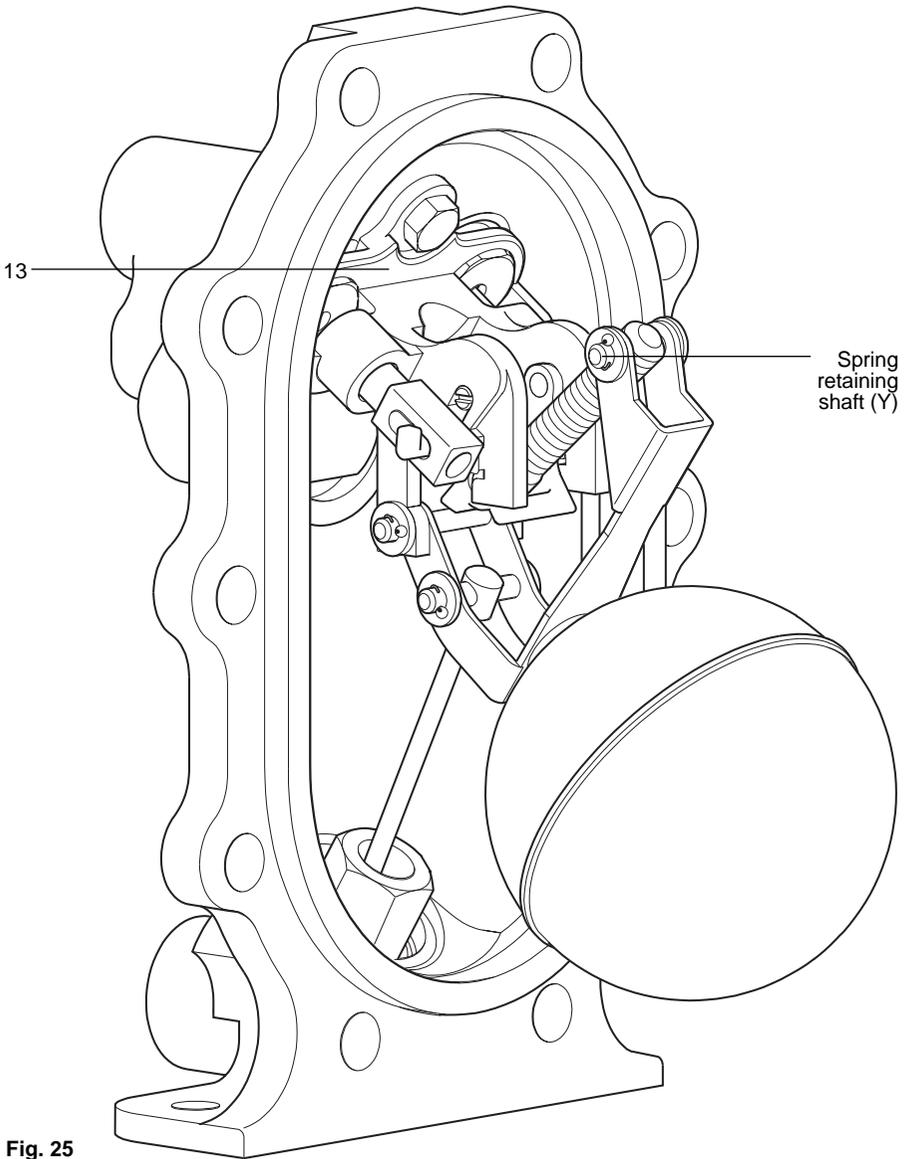

Fig. 25
19. Ensure the actuator is correctly aligned and located within the slots of the pump bracket (item 13).
21. Always use new split pins and washers when refitting the spring retaining shaft (Y) (30 mm long).
**Note:** The valve gear has been designed to be adjustment-free, simplifying the fitting of new parts. If after assembly the mechanism does not operate correctly, check all the parts are assembled and aligned as per Fig. 25.
25. Carefully reconnect the motive steam supply and the exhaust lines to the connections marked (S) and (E) and the condensate inlet and outlet to the connections marked (IN) and (OUT). The APT10-2 is now ready to recommission.